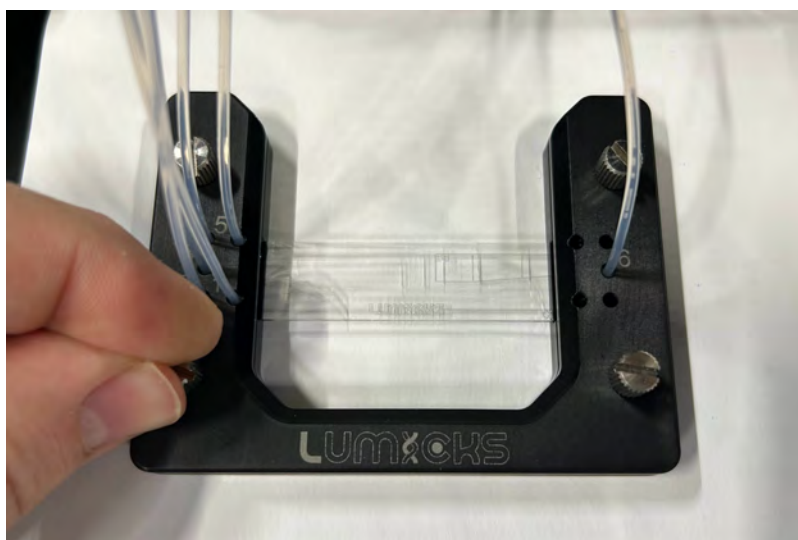

Figure 12.2.1: Figure: Release all thumbscrews on the flowcell mount.
2. Release all four thumbscrews on the flowcell mount (see Figure 12.2.1).